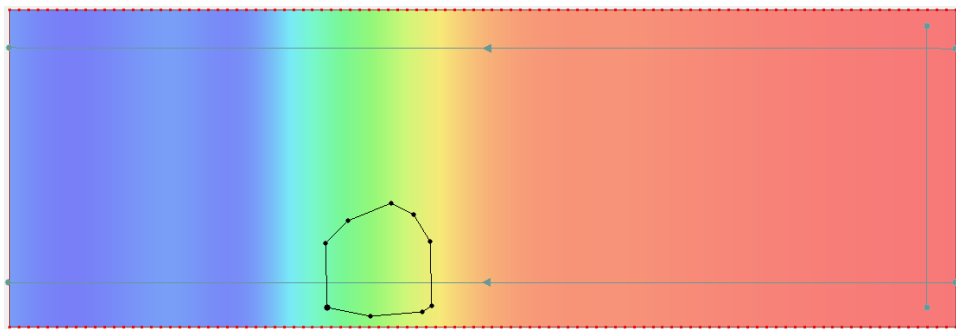

Figure 8 Area with different roughness
- Using the **Create Feature Arc**  tool, click out a polygon enclosing an area with different roughness, as shown in Figure 8. This may represent a vegetated region.